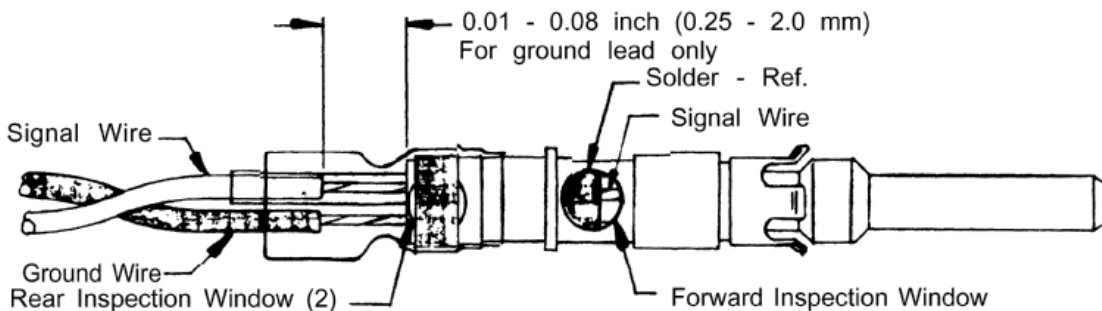
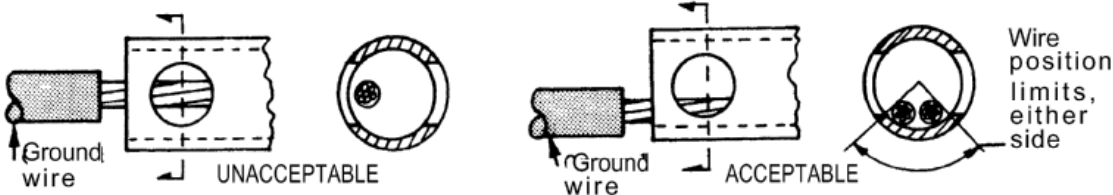

FIGURE 5
FIGURE 6A
5.2.3.1 The signal wire must be visible through the forward inspection window (Figure 5) and must be under (inside) the solder preform.
5.2.3.2 Ground conductor should be positioned BETWEEN the two rear inspection windows (Figure 6B), and not directly IN either window (Figure 6A). It must not extend into the forward inspection windows. The trimmed insulation end should be within the dimensional limits of Figure 5.